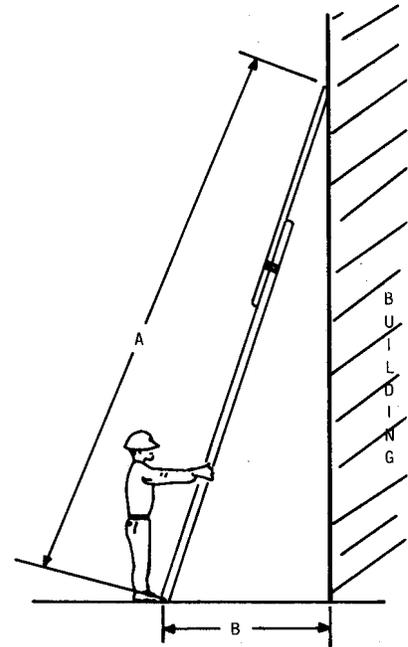

Fig. 31—Ladder Placed Against Wall
9.02 Exercise care when positioning ladders before climbing. The correct angle is obtained when facing the ladder with your toes placed against the siderails; you should be able to grasp the siderails with your hands by reaching straight out (see Fig. 31 and 32). When this is accomplished, the ratio of B/A should be approximately 1/4.